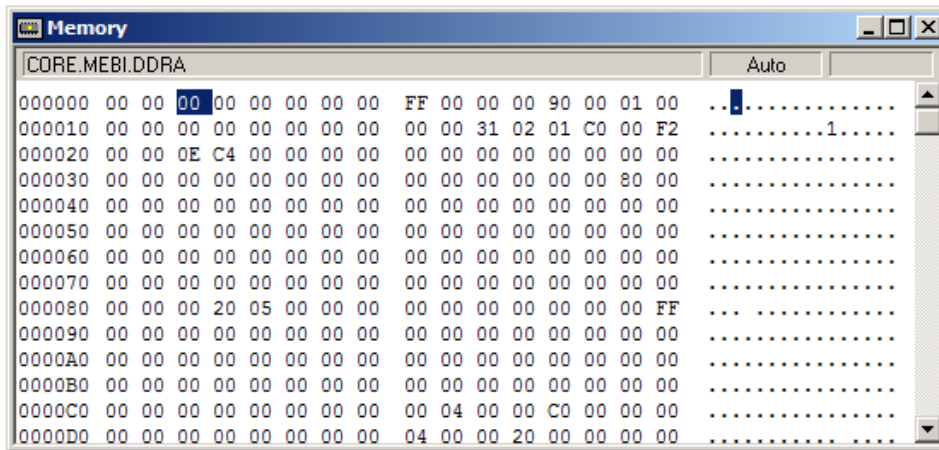

Figure 1.24 True-Time Simulator & Real-Time Debugger - Memory window
- Memory window (Figure 1.24) – displays the MCU memory. Besides the normal memory data the following characters can also be seen in the memory window: “-” byte not configured, “r” byte not accessible (MCU is running) and “p” byte cannot be read or read and written.